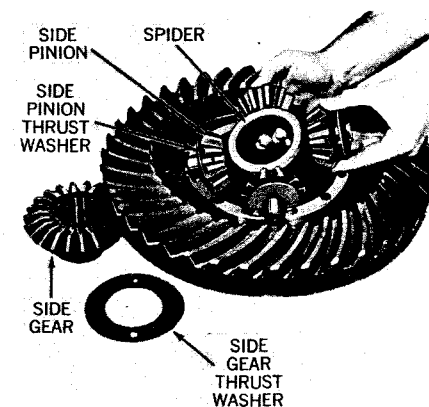

Fig. 12.
3. Place thrust washer and side gear in flanged differential case. Assemble side pinions and thrust washers to spider, then place this assembly on flanged differential case (see fig. 12). Place right-hand side gear and thrust washer on side pinions.